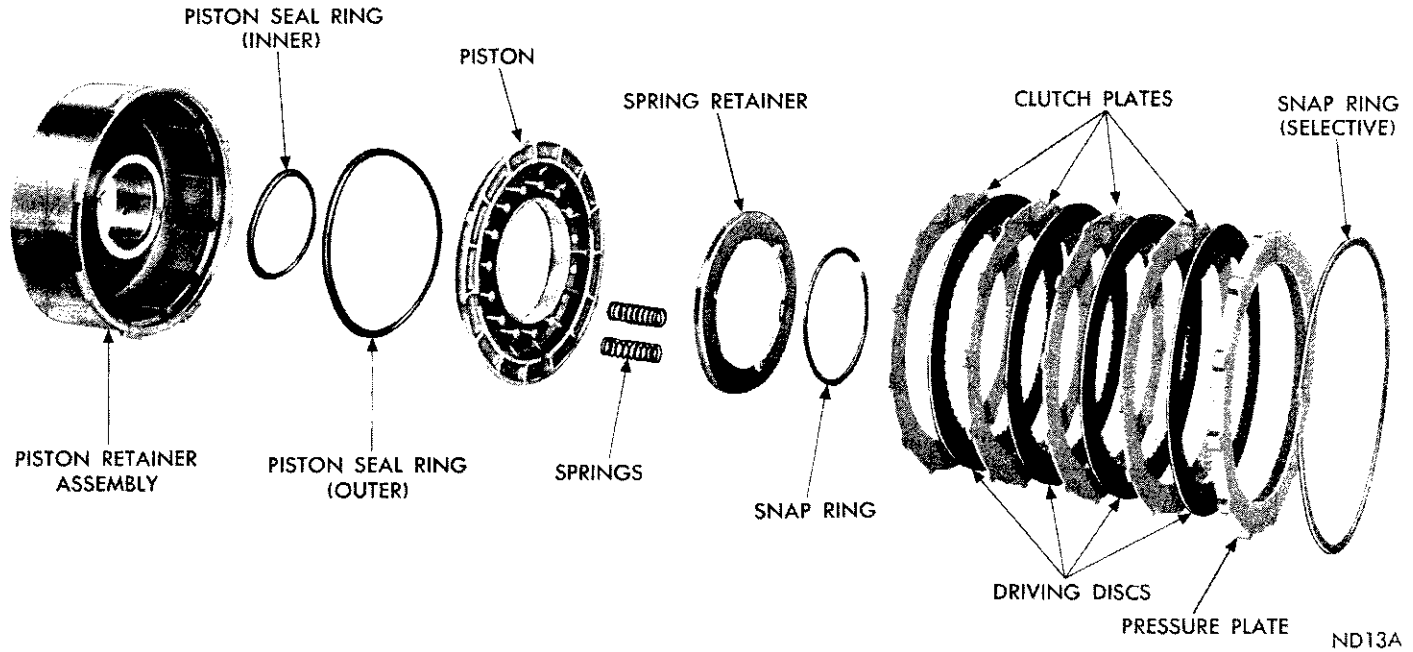
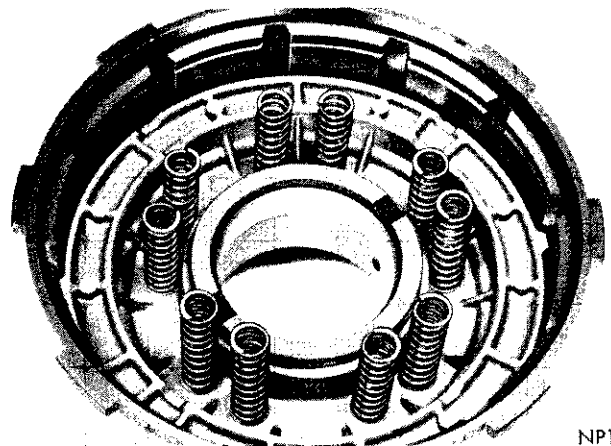

Fig. 53—Front Clutch Disassembled (A-727)
Fig. 56—Front Clutch Piston Return Spring Location (10 Springs)
Figure 53 shows a disassembled view of the front clutch assembly.
(1) Lubricate and install inner seal on hub of the clutch retainer. Make sure lip of seal faces down and is properly seated in the groove (Fig. 53).
(2) Install outer seal on the clutch piston, with lip of seal toward bottom of the clutch retainer. Apply a coating of wax type lubricant or Door Ease to outer edge of seal for easier installation of the piston assembly. Place piston assembly in retainer and carefully seat piston in bottom of the retainer.
(3) Install springs as shown in Figures 56, 57 or 58.